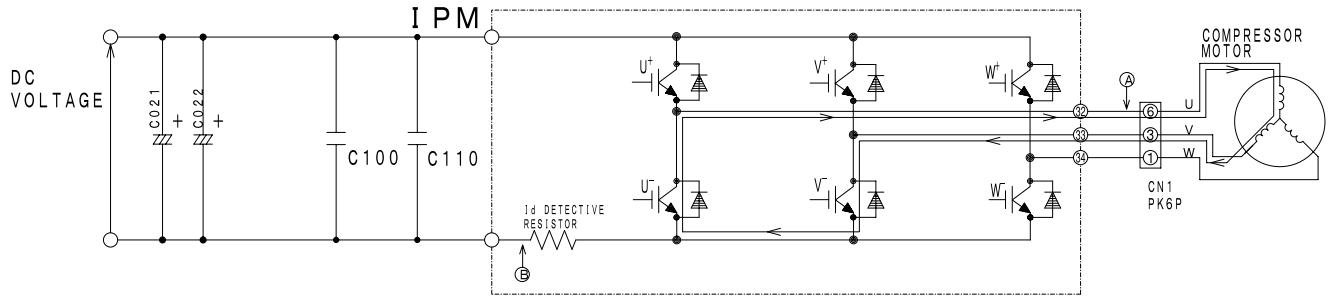

Fig. 3-4 Power module circuit ( $U^+$  is OFF,  $V^-$  is ON)
At point ⑥: U+ is chopped (OFF), V- is ON (circuit in Fig. 3-4)
- (2) When U+ transistor is OFF: (by inductance of motor coil) U coil → V coil → V-transistor → U- diode → Point ⑨ (Fig. 3-4)